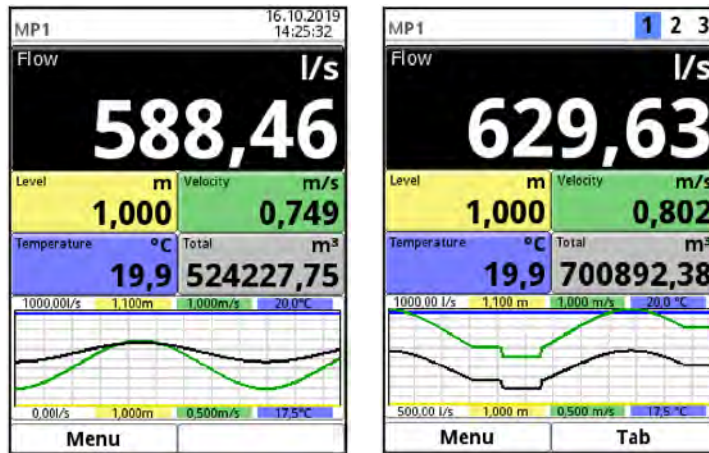

Fig. 31-2 Selected Screen Flow (right illustration for type T4/G4/TM/GM)
- Date (alternatively 1, 2, 3 etc.; see Fig. 31-2)
- Time (alternatively 1, 2, 3 etc.; see Fig. 31-2)